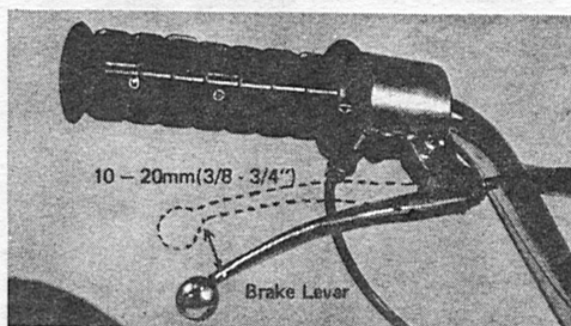

Fig. 47
1. The front brake should be adjusted so there is $3/8$ to $3/4$ of an inch of free play in the hand lever. (Figure 47)